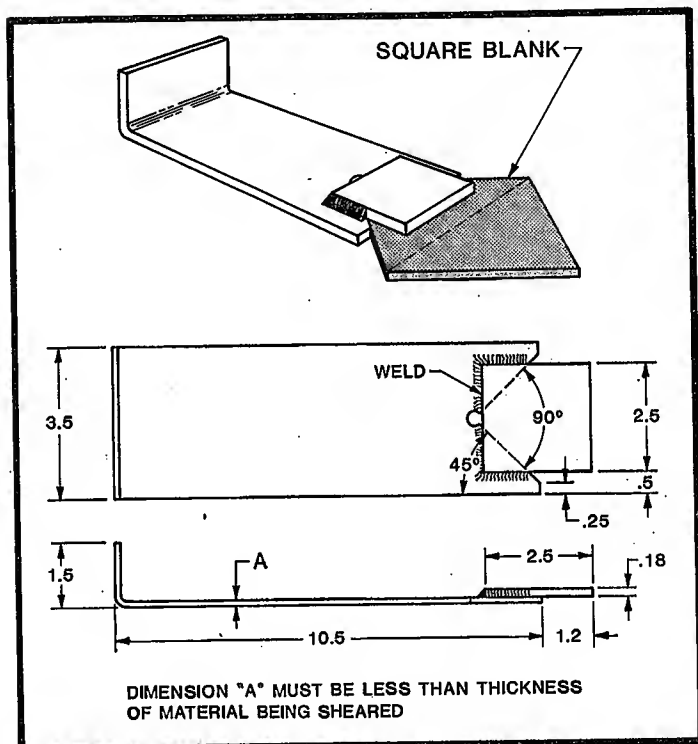

FIGURE 52
Use the back gage and a special tool similar to Figure 52. A light beam shearing gage could be helpful. The following procedure is for 45° gussets. The tool and set-up would vary for other angles.
4. Make tool similar to Figure 52. (Note: Thickness "A" must be less than material thickness)